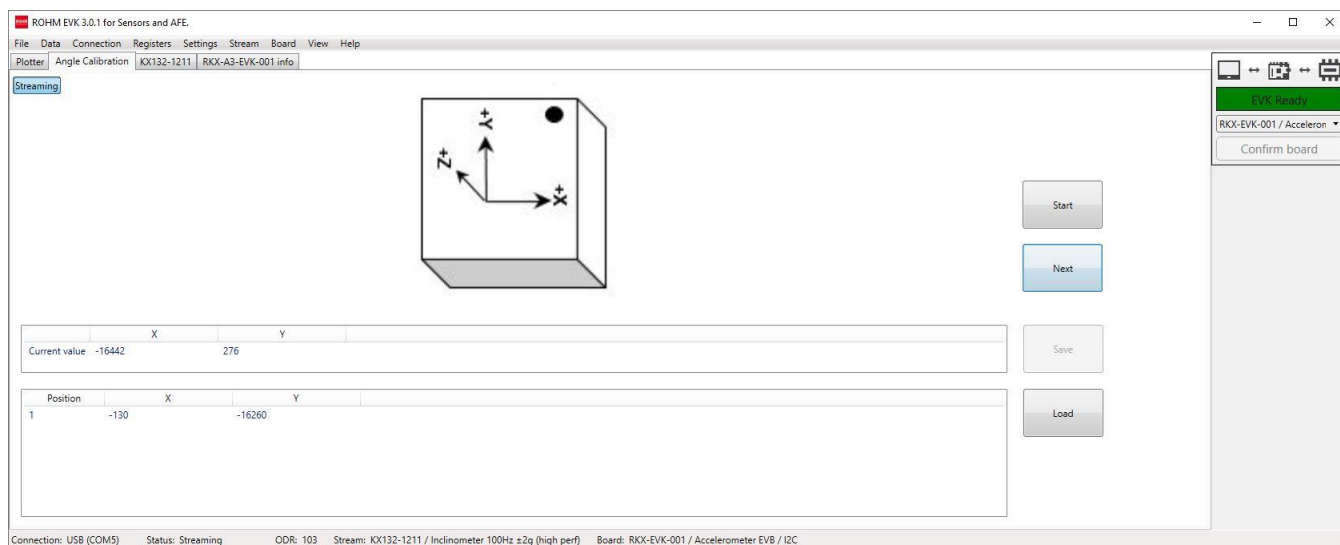

Figure 61. Angle Calibration. Position – 2
- Click Next and hold the device still until the diagram changes to the 2nd position (Figure 61) The last current value for position 1 is now stored and shown in the 2nd table.